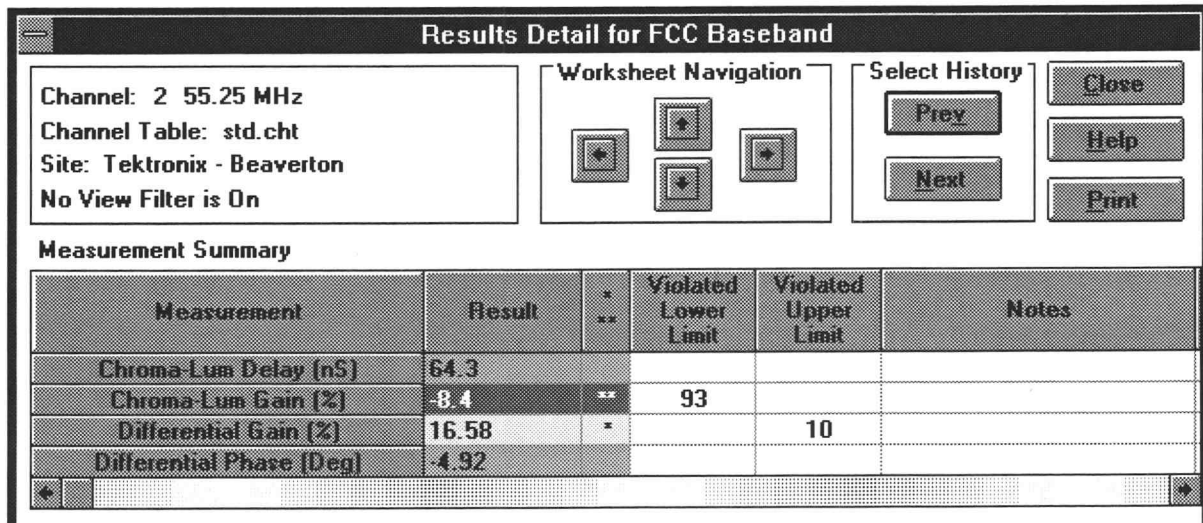

Figure 6-2. The Results Detail dialog box for the FCC Baseband measurement for the first channel. You got here by choosing the right worksheet navigation arrow.
1. Move to the FCC Baseband measurement for your first channel by choosing the right Worksheet Navigation arrow. Note that the Title Bar of the dialog box changes to reflect the different measurement. The Results Detail display looks similar to Figure 6-2.